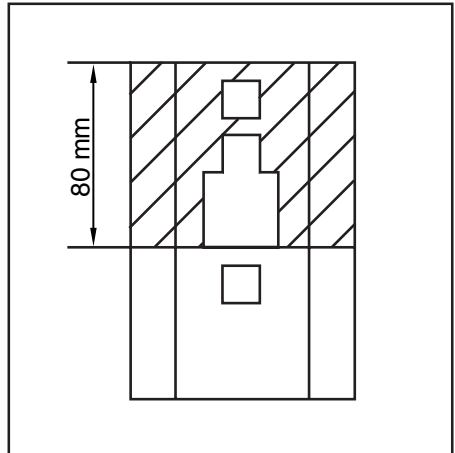

Fig. 17 Shortening the arrester rail
1. Saw approx. 80 mm off the arrester rail as shown in Fig. 17.